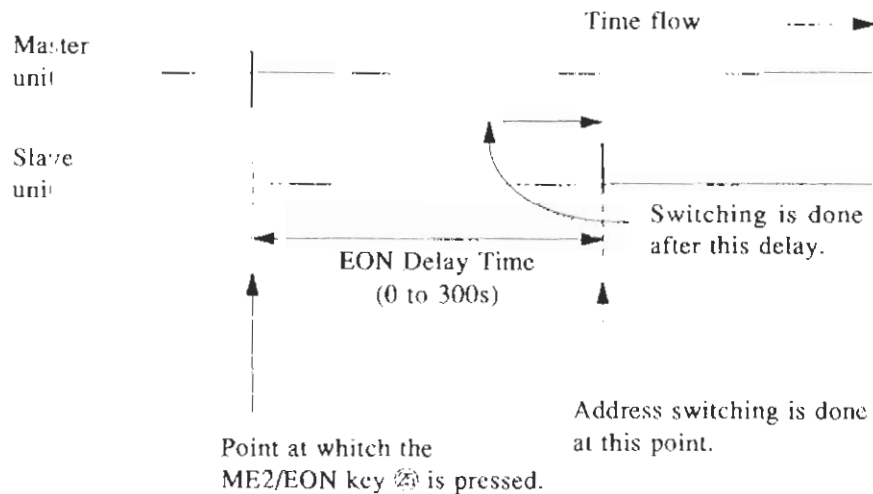

Fig. 4-7-7 EON Delay Time Explanation
The EON delay time is the time in the EON remote linked mode from the point at which ME2/EON key ② of the TRI/RDS group is pressed until the address of the slave unit is switched. This timing is shown in Fig. 4-7-7.